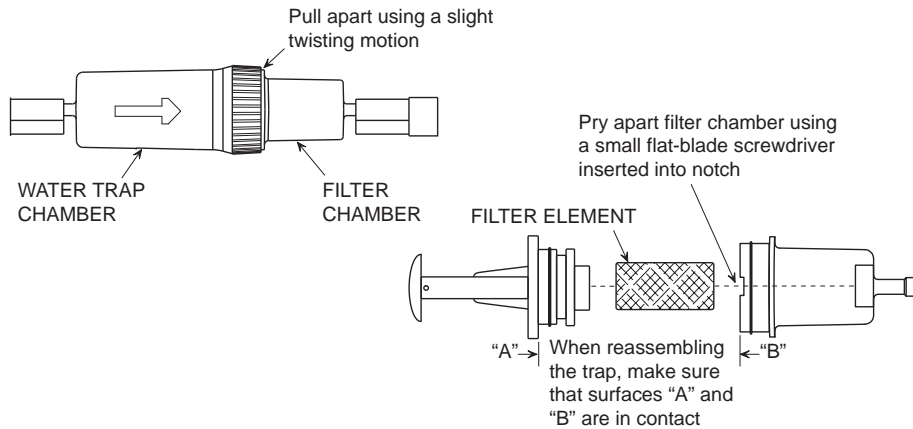

Figure 5-2. Water Trap / Filter Assembly
1. Pull apart the Water Trap / Filter assembly (see Figure 5-2).
1. Pull apart the Water Trap / Filter Assembly (see Figure 5-2).